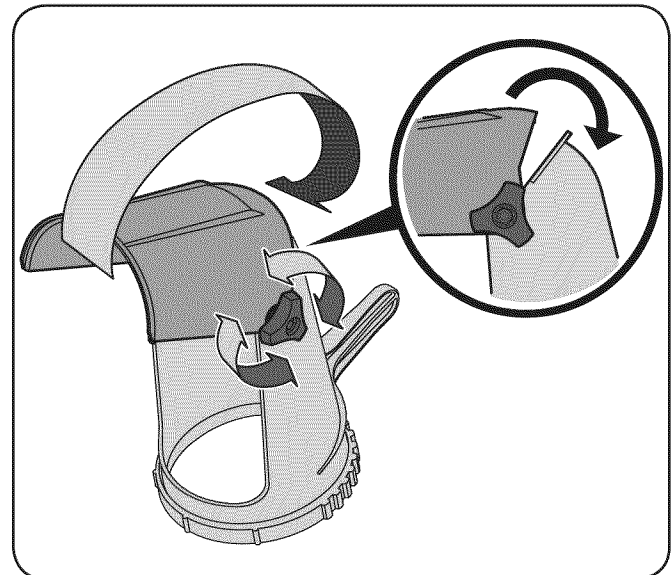

Figure 3-7
2. Remove the wing knob, bell washer and bolt from the left side of the chute. See Fig. 3-7.